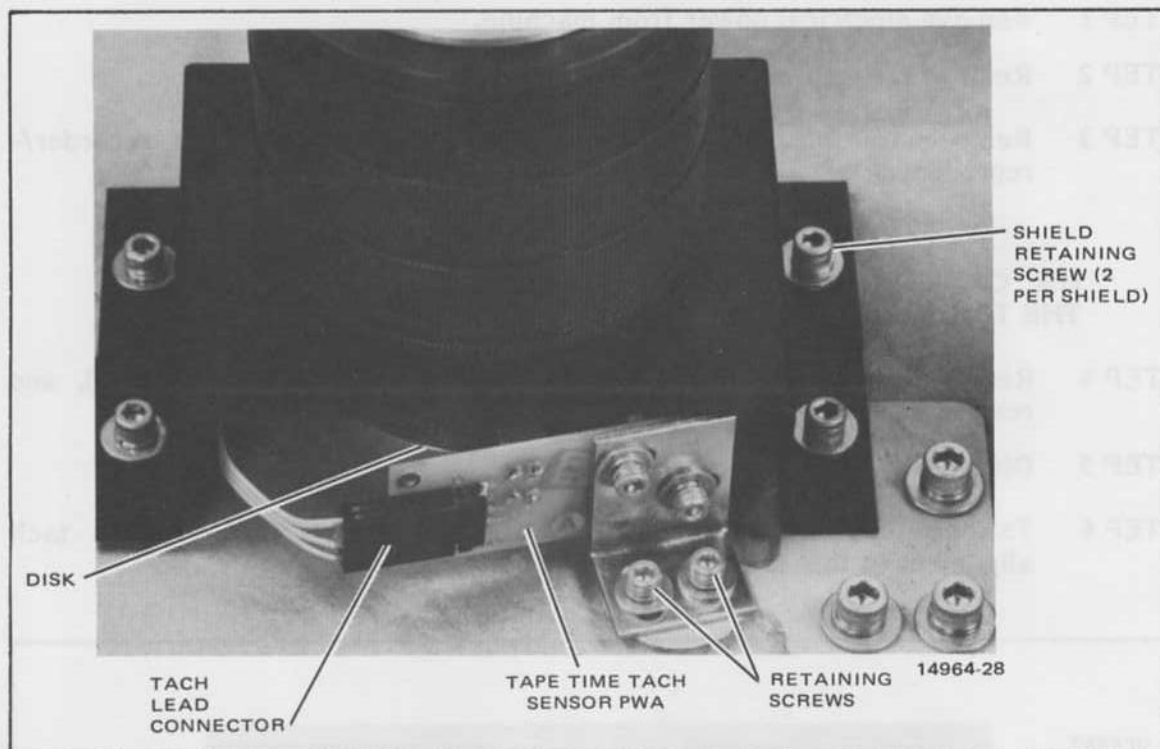

Figure 5-44. Tape Timer Tach Sensor PWA
USE CARE WHEN HANDLING HARDWARE IN THE VICINITY OF THE TIMER DISK (FIGURE 5-44).
- STEP 4 Remove tape timer tach sensor retaining screws (Figure 5-44), and remove sensor.